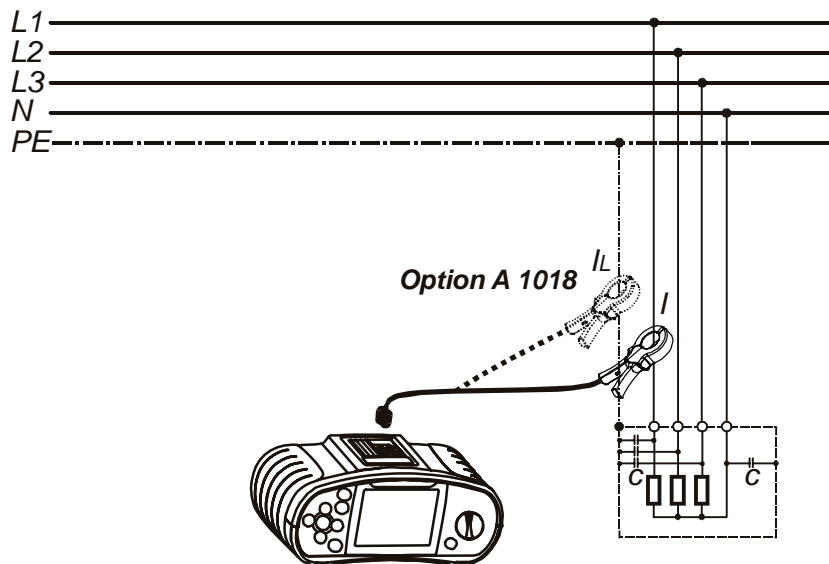

Figure 5.43: Connection diagram
Step 3 Connect the test leads to the Eurotest instrument and follow the connection diagram shown in Figure 5.43 to perform a TRMS current measurement. Use the **Help** function if necessary.